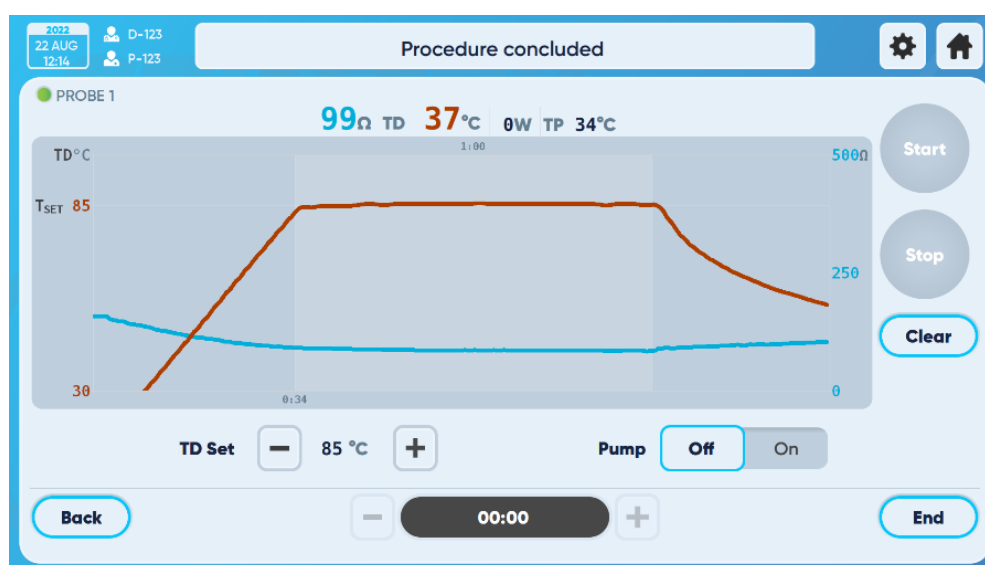

Figure 31 - Completed procedure screen
4. When the ablation creation process is complete, the Completed Procedure screen will be displayed (Figure 31)